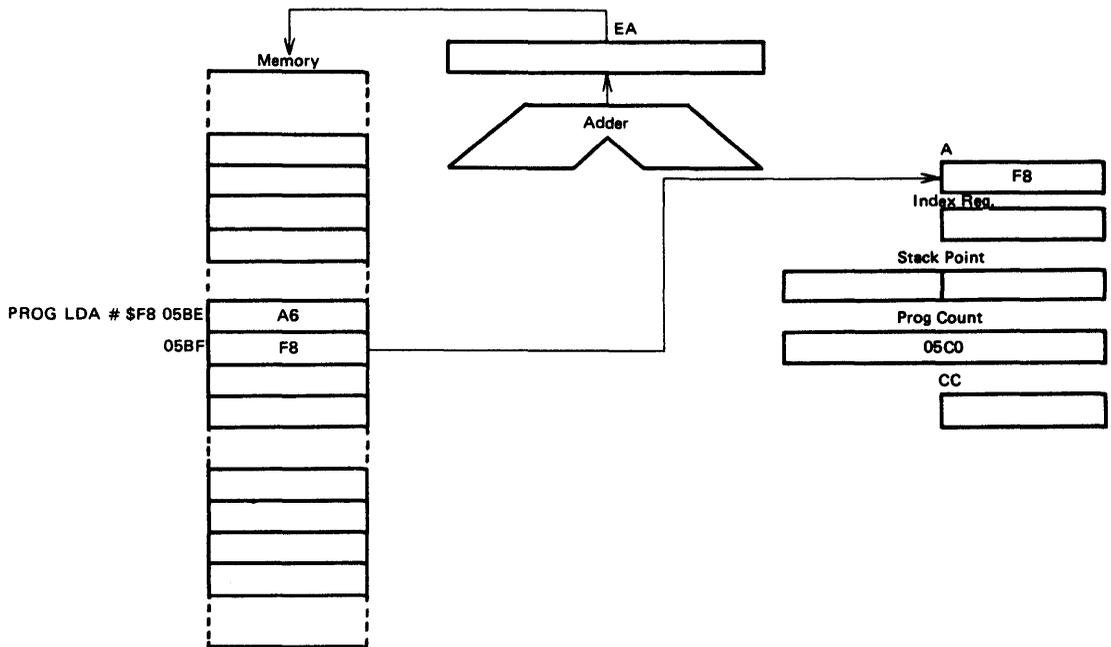

Figure 20 Example of Immediate Addressing
See Figure 20. In immediate addressing mode, constants that will not change during execution of a program are accessed. The instruction used for that purpose has a length of 2 bytes. The effective address (EA) is PC. The operand is fetched from the byte that follows the OP code.